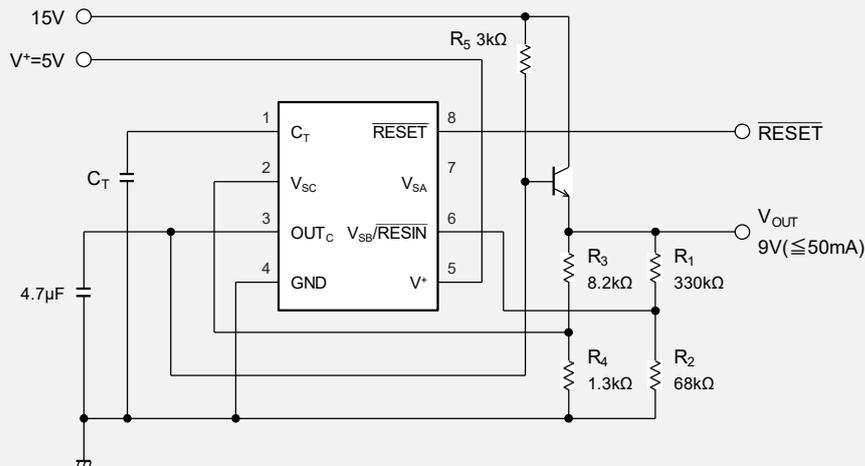

Fig. 11 Reference voltage output and voltage drop monitoring (e.g. 9V reference output, 5V, 9V monitoring)
- The reference voltage  $V_{OUT}$  and its detection voltage are calculated as the following formula. In case of resistor value In Fig.11, the reference voltage  $V_{OUT}$  is about 9.0V, the detection voltage ( $V_{OUT}$  falling) is about 7.1V and the detection voltage ( $V_{OUT}$  rising) is about 7.3V